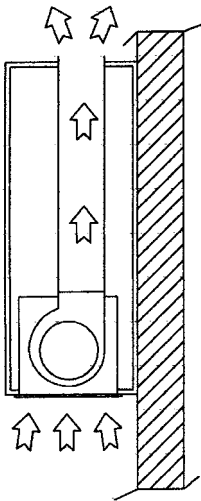

Fig.1.
- › In Recirculation mode (Fig.1), the air and fumes conveyed by the appliance are cleaned both by a grease filter and by an active charcoal filter, and put again into circulation through the hole made in the top of the cabinet.